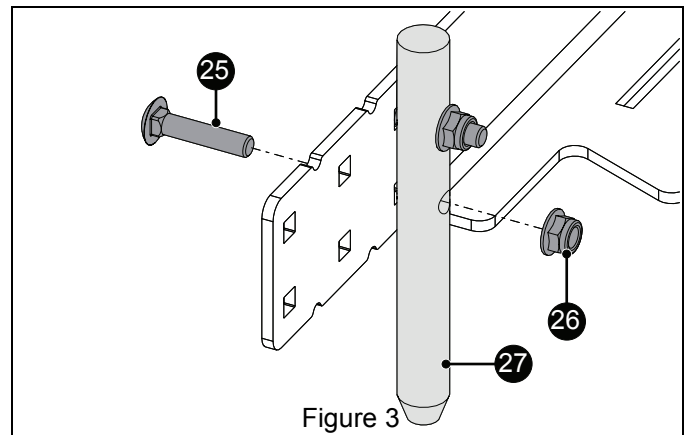

Figure 3
3. Secure discharge chute pin (item 27) to chute mount assembly with two 5/16 x 1 1/2" round head square neck bolts (item 25) and two 5/16" nyloc flange nuts (item 26). See Figure 3.